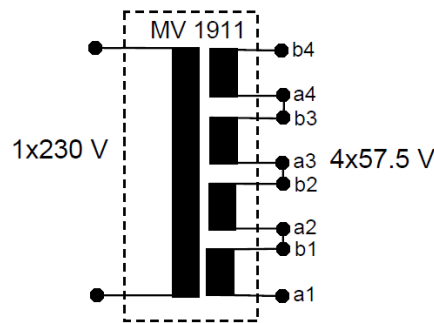

Figure 2: Connection of MV 1911 to make a single-phase power transformer with ratio 1:1
1. For single-phase power transformer (MV 1911), connect the secondary windings in series as shown in Figure 2. This represents a single-phase transformer 230V/230V.